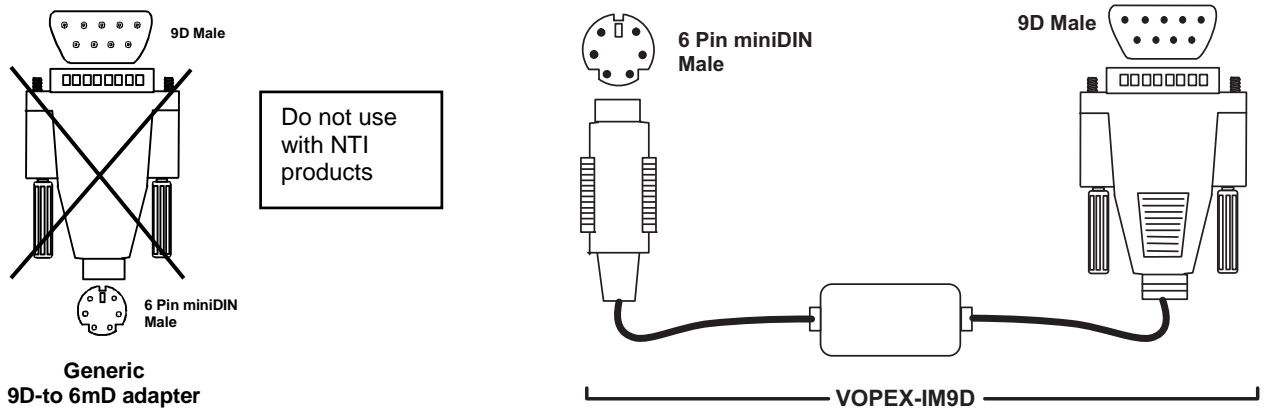

Figure 10- Use a NTI VOPEX-IM9D with serial type mouse port
**WARNING!** If a serial mouse port is being used on a PC to connect a serial CPU to an ST-2U switch, do not use a generic 9D-to-6mD adapter to make connection to the PS/2 cable-- use a VOPEX-IM9D to convert the signal from the serial port to PS/2. (See Fig. 10)